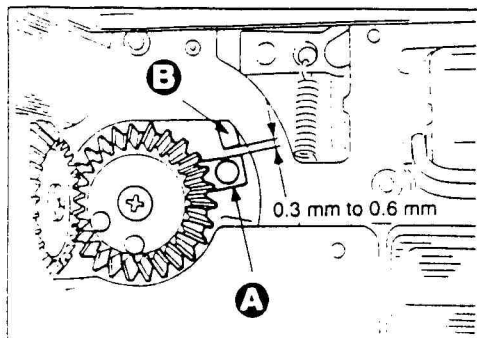

Fig. 1
1. Wind up the wind-up crank until the space between the second curtain charge gear (A) and the hook (B) of the second curtain becomes 0.3 to 0.6 mm, at this time, the clutch (C) of the wind-up substrate must get out of the gear.
Loosen the screw (D) and adjust the position of the stopper (E) so that the clutch works at the timing as described above. (See Fig. 1.)